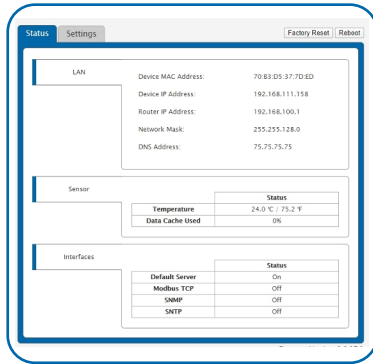

Figure 25
The **Settings Tab** will open to the Network Page. See Figure 25.
**HTTP Service Timeout:** This is a security setting for allowing this web interface to be active. The default is 5 minutes. Setting the field to 0 will turn off the local interface, ending your session. See Figure 25.